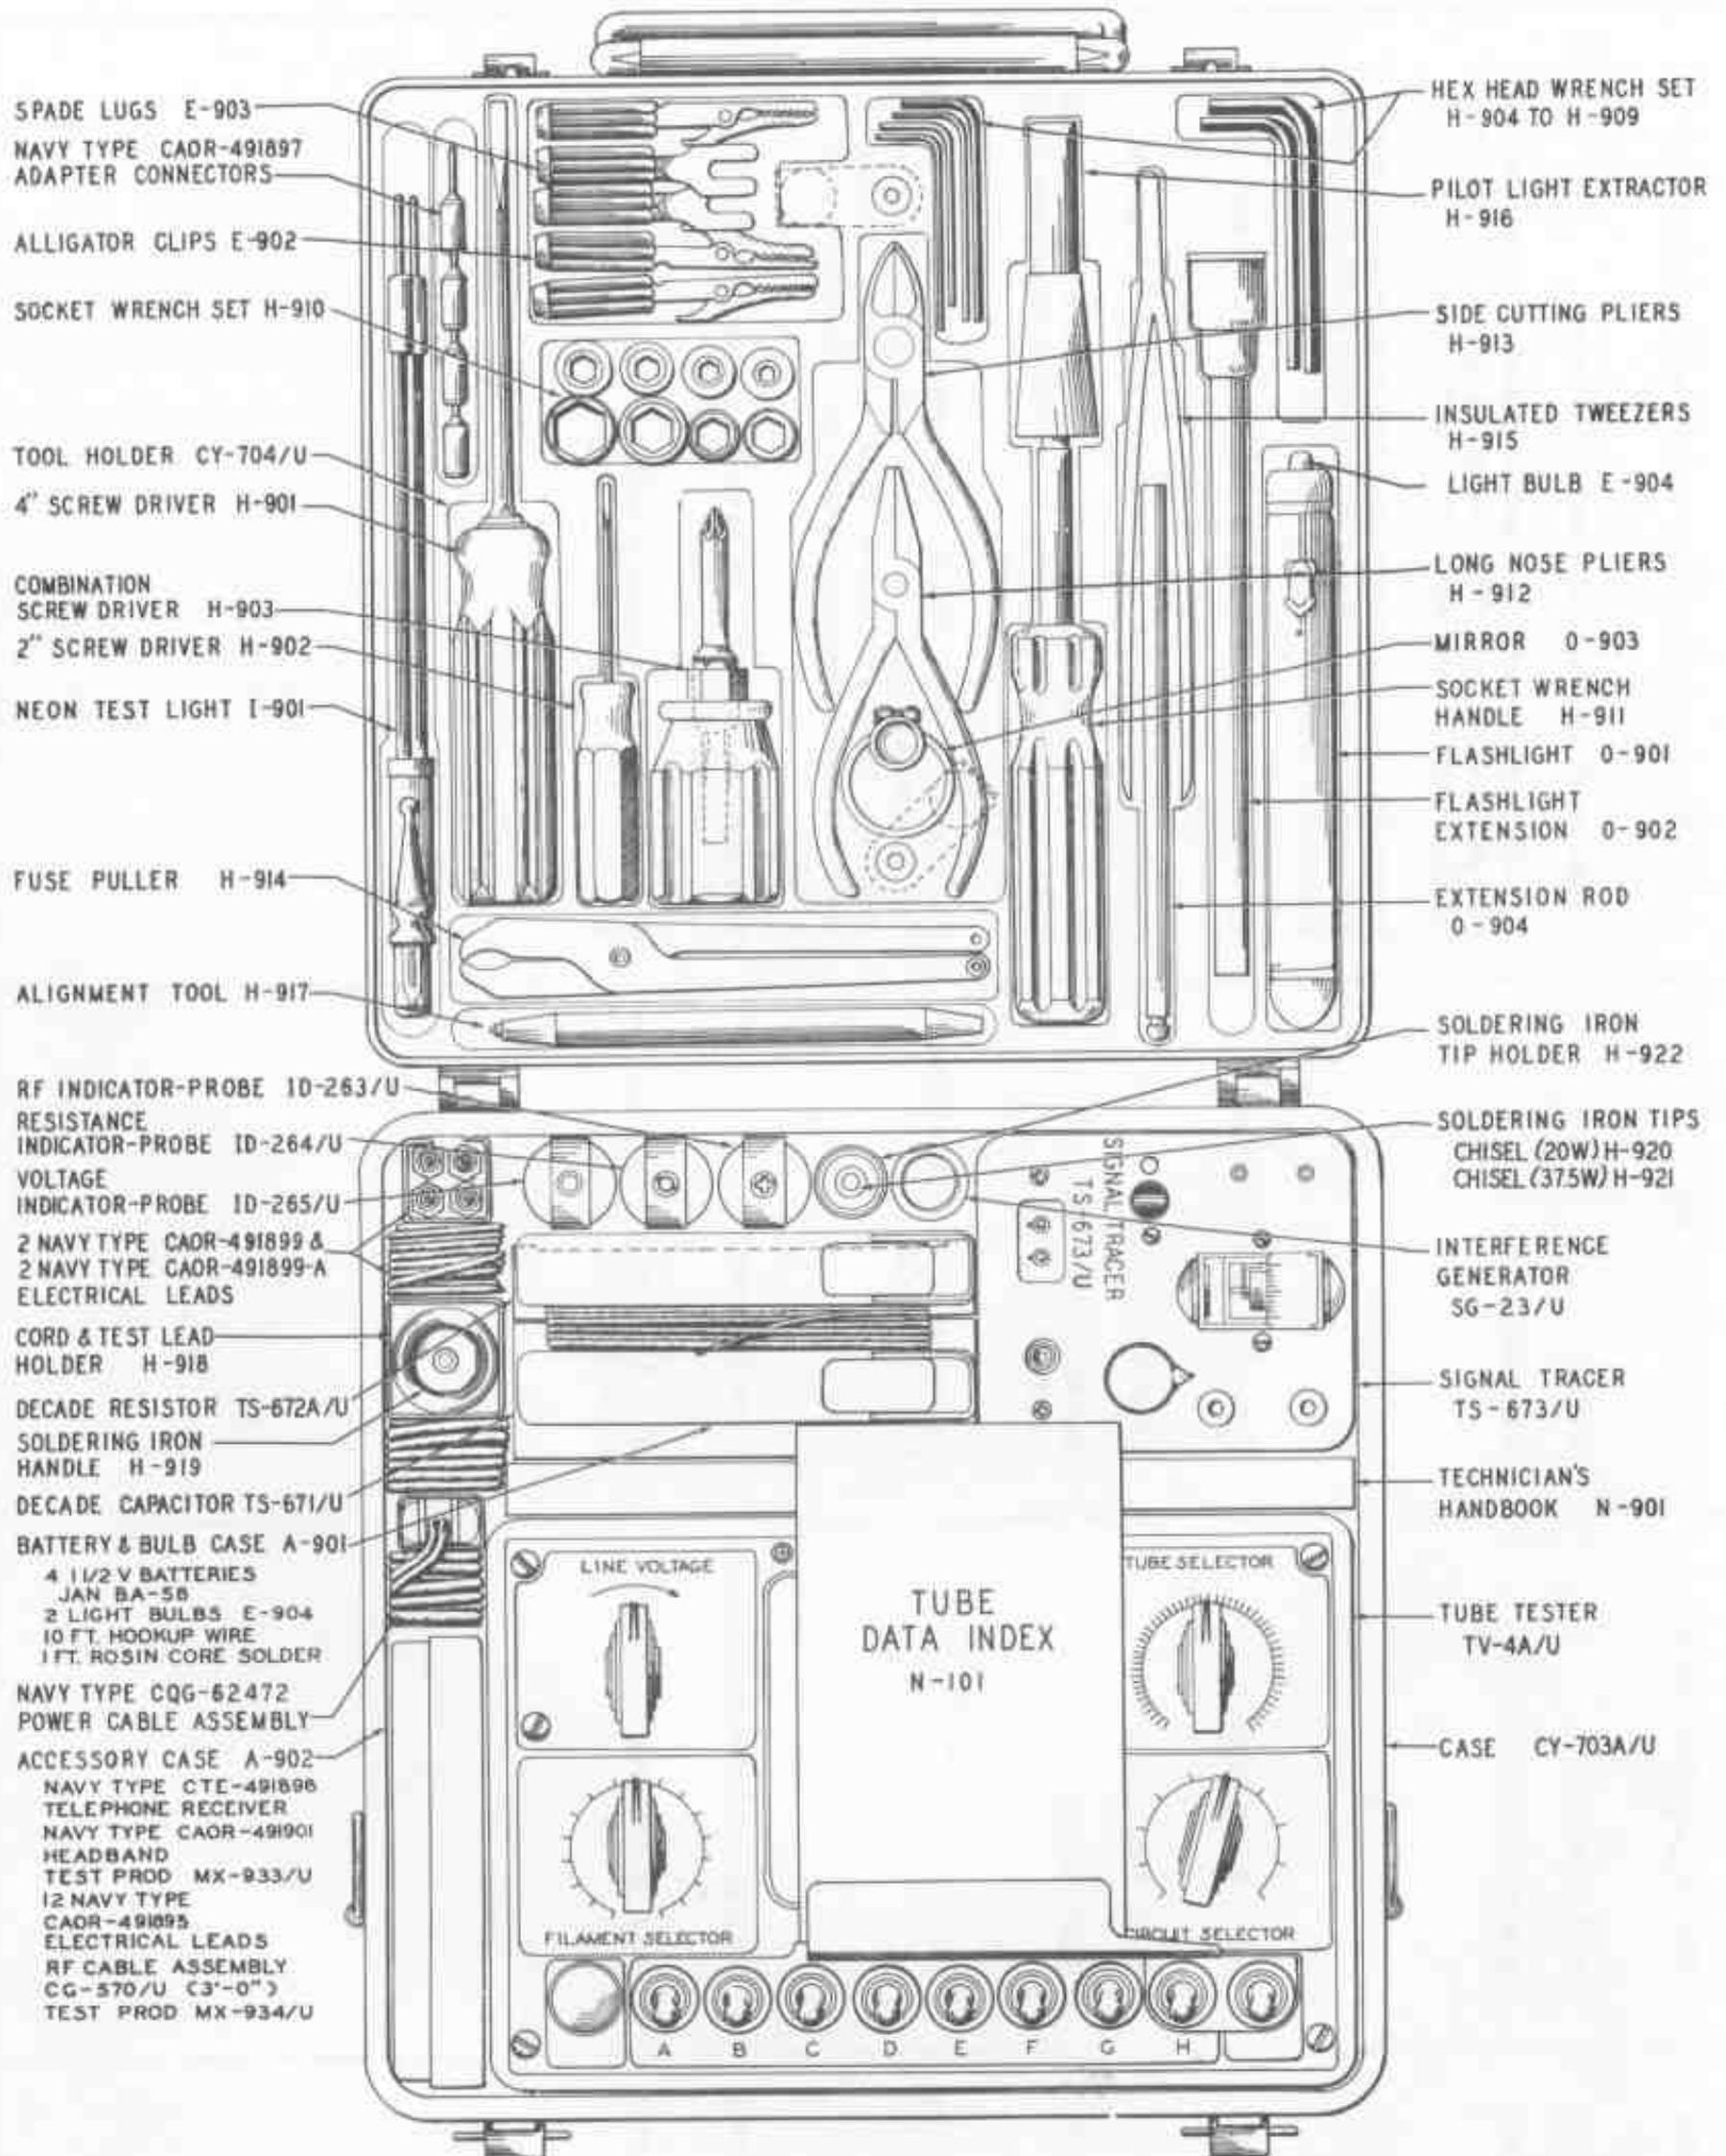
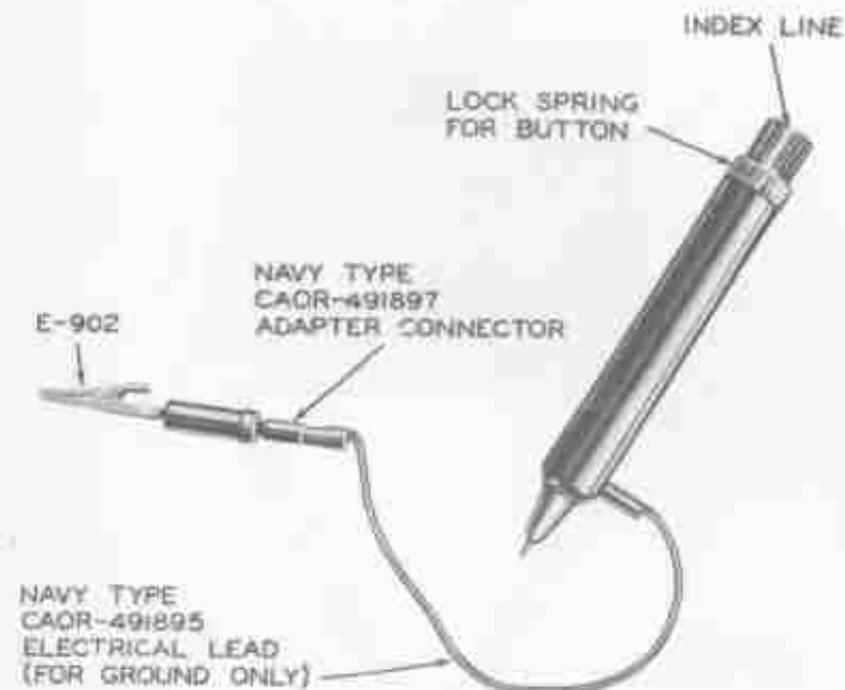
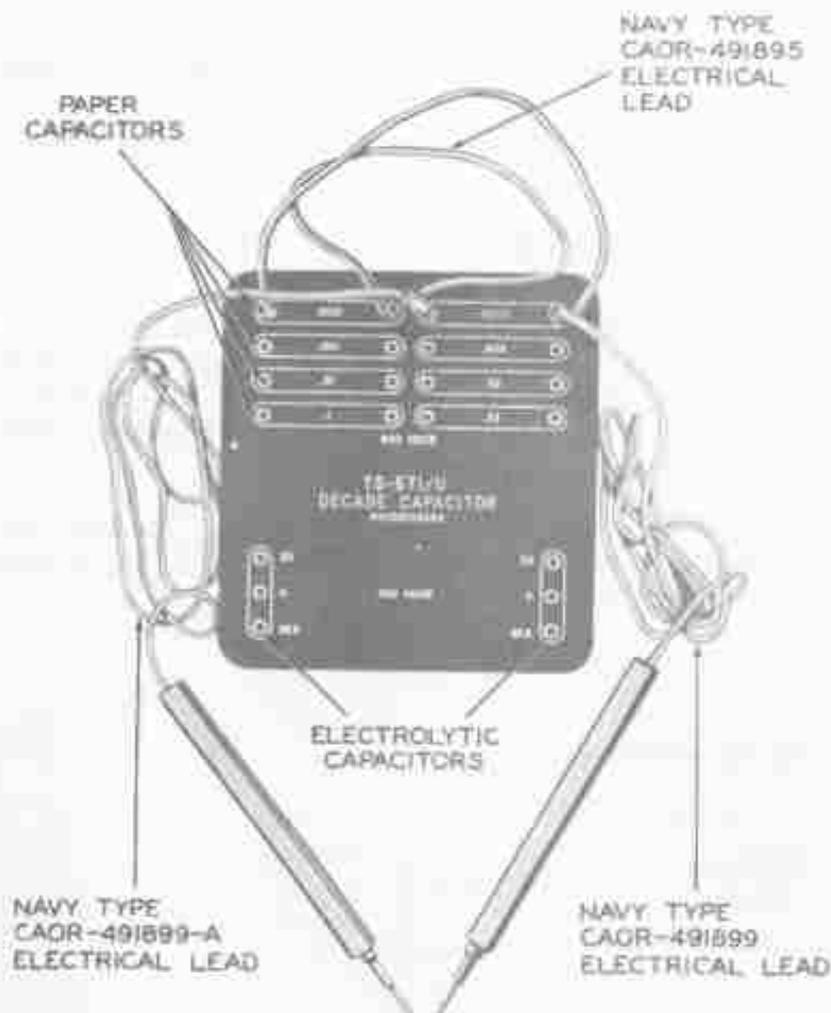

Figure 1-1. Test-Tool Set AN/USM-3A, Identification of Units
Figure 1-4. Interference Generator SG-23/U and Navy Type CAOR-491895 Electrical Lead, Identification
Figure 1-9. Decade Capacitor TS-761/U, Identification
This instruction book covers Test-Tool Set AN/USM-3A as shown in figure 1-1. The units are shown in place in the carrying case.
able or where all necessary precision test equipment is damaged or cannot be carried. To accomplish this end, a compact, lightweight case is supplied with the items as shown in figure 1-1 fitted into it so that all items are accessible and easily located.
a. CASE CY-703A/U. (See figure 1-1.) - The Case consists of two drawn aluminum covers 9-1/2 x 9-1/2 x 3-1/2 inches which are hinged together, forming a box 7 inches deep. Latches, fittings, and a handle are provided.
The amplifier is capable of amplifying AC voltages from 47 to 15,000 cycles per second when used with the Test Prod MX-933/U. Audio modulation on voltages having frequencies from 15,000 cycles to 400 megacycles is detected by Test Prod MX-934/U and amplified by the Signal Tracer. The Signal Tracer is located behind the Tube Tester as shown in figure 1-1.
The Telephone Receiver and Headband, RF Cable Assembly, Electrical Leads CAOR-491895, and Test Prods are in the Accessory Case to the left of the Tube Tester (see figure 1-1) and are listed in table 1-3 under Accessories.
d. INTERFERENCE GENERATOR SG-23/U. (See figure 1-4.) - This unit is an aperiodic impulse buzzer type generator housed in a probe case. Pressing the button at the top connects the battery to the buzzer. The white line on the button indicates the position of the attenuator. The buzzer is connected directly to the probe tip in position 1 and through a variable capacitor in positions 2 through 10. The buzzer frequency is approximately 1000 cycles per second with harmonics extending up to approximately 400 megacycles. It is used to generate audio and radio frequency voltages for test purposes. It is used with Navy Type CAOR-491895 Electrical Lead, Navy Type CAOR-491897 Adapter Connector, and Alligator Clip E-902. These items are located in the Accessory Case and in the Tool Holder. (See figure 1-1.)
The Interference Generator is located next to the Signal Tracer in the back of the Case as shown in figure 1-1.
This Probe is located in the Case behind the Tube Tester. (See figure 1-1.)
To reach into a deep chassis or into high voltage areas, the Extension Rod O-904 is provided. This rod slips onto the tip of the Probe. When used, it normally increases the sensitivity of the unit. It is stowed in the Tool Holder, and the Probe is located at the rear of the Case as shown in figure 1-1.
g. RESISTANCE INDICATOR-PROBE ID-264/U. (See figure 1-7.) - Also of the probe type, this unit consists of a meter movement, a calibrating resistor, and a 1-1/2-volt battery enclosed in a plastic case. The scale is marked from 0 to 10,000 ohms. The electrical connections are at the probe tip and through a test lead plugged into the top of the case. This Probe is used with Electrical Lead CAOR-491899-A, which is located on the Cord and Test Lead Holder. For its location in the Test-Tool Set refer to figure 1-1.
h. DECADE RESISTOR TS-672A/U. (See figure 1-8.) - This unit consists of a molded plastic case housing 28 two-watt resistors, each insulated from the other. The values are arranged in a one, two, three, six series from one ohm to six megohms; thus allowing any value between one ohm and 12 megohms to be obtained in steps of one ohm by connecting the proper resistors in series by means of the Navy Type CAOR-491895 Electrical Leads. Figure 1-1 shows its location in the rear of the Case.
i. **DECADE CAPACITOR TS-671/U.** (See figure 1-9.) - Consisting of a molded case similar to the Decade Resistor, this unit contains a series of capacitors covering a range between 0.0001 microfarad and 48 microfarads. Individual capacitors having values of 0.0001, 0.0003, 0.001, 0.003, 0.01, 0.02, 0.1, and 0.25 microfarads, rated at 600 volts, are placed as indicated by the front panel markings. The two 20/4-microfarad electrolytic capacitors each have a common negative. Other values in the range covered can be obtained by the use of electrical leads. The Decade Capacitor is located in the Case immediately in front of the Probes as shown in figure 1-1.
for the capacity meter function of the Tube Tester. They are stowed in the Tool Holder CY-704/U as shown in figure 1-1. The units adapt a banana plug to a phone tip jack.
n. **TOOL HOLDER CY-704/U.** (See figure 1-1.) - It consists of two pressed, transparent, plastic sheets with recesses provided for stowing each tool. The bottom sheet is fastened to the inside top of Case CY-703A/U. The top sheet holds the tools in their respective compartments and is secured by two snap-slides. The name and standard Navy stock number of each tool appears in the bottom of its individual compartment, and all tools are installed in the top of the Case. The top sheet, or tool cover, is held by a wire to prevent its loss when open.
o. **TECHNICIAN'S HANDBOOK.** (See figure 1-1.) - This book is provided for ready reference on the part of the operator when making emergency repairs and includes sufficient technical data and information necessary to use the Test-Tool Set. It is located in the Case in back of the Tube Tester.
p. **BATTERY AND BULB CASE.** (See figure 1-1.) - Pressed from plastic, this case provides storage space for four 1-1/2-volt flashlight batteries JAN BA-58, two flashlight bulbs, 10 feet of hook-up wire, and one foot of 50/50 rosin core solder.
q. **TOOLS AND MINOR ITEMS.** (See figure 1-1.) - The tools and items listed below are contained in the Tool Holder in the top of the Case, unless otherwise noted.
- (1) Fuse Puller H-914 - flat dual size.
- (2) Pilot Light Extractor H-916 - a rubber cup device to aid in the removal of pilot lamps from inaccessible locations.
- (3) Hex Head Wrench Set H-904 to H-909 - 0.050, 1/16, 5/64, 3/32, 1/8, and 5/32.
- (4) Insulated dental type Mirror O-903 - can be attached to Flashlight Extension O-902 to examine areas hidden from direct view.
- (5) Insulated Tweezers H-915 - 6 inches.
- (6) Flashlight O-901 with lucite Flashlight Extension O-902.
- (7) Long Nose Pliers H-912 - 4 inches.
- (8) Side Cutting Pliers H-913 - 4-1/2 inches.
- (9) Socket Wrench Set H-910 - 3/16, 7/32, 1/4, 9/32, 5/16, 11/32, 3/8 and 7/16 with Handle H-911.
- (10) Neon Test Light I-901 - 200,000 ohms impedance, 60-500 v AC, and 90-500 v DC - tests for presence of voltage.
(13) Screwdriver H-902 - 2 inches with 3/32-inch blade.
(14) Extension Rod O-904 - for use with all Probe units. It has a metal center conductor and plastic exterior. A removeable insulating cover is provided for use with the RF Indicator-Probe ID-263/U and for Test Prod MX-934/U.
(15) Three Alligator Clips E-902 - for test leads.